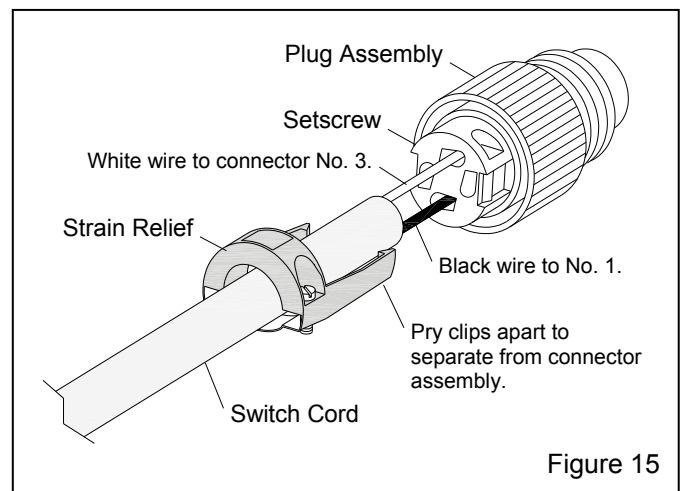

Figure 15
**4.7.1.3** Refer to Figure 15 and loosen the strain relief screws to remove the grip on the cord. Pry the strain relief clips apart and pull the relief away from the plug assembly.